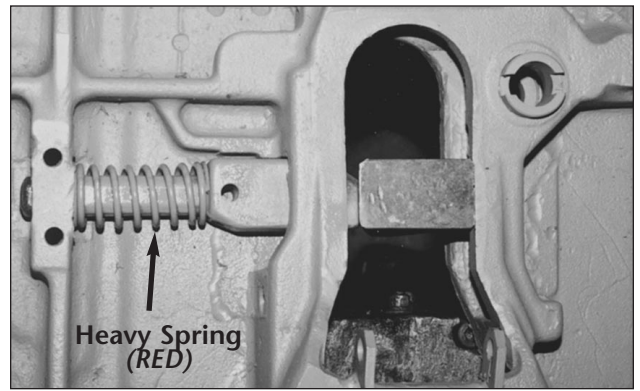

FIGURE 2
1. To begin, install the (red) spring (1) in the casting.
2. Start the $\frac{3}{8}$ " square head set screw (13) into the plunger (2) six full turns and lubricate plunger with a light grease.
3. Install the plunger (2) into the casting with the set screw (13) facing the open end of the top plate. Secure the plunger by compressing the spring with the helper block until the plunger is flush with the throat of the casting (see *Figure 2*).